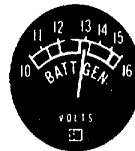

Figure 2-2. Voltmeter Operation
03. VOLTMETER. The voltmeter measures the voltage produced by the alternator and indicates the condition of the battery. See Figure 2-2 for an explanation of the voltmeter readings.